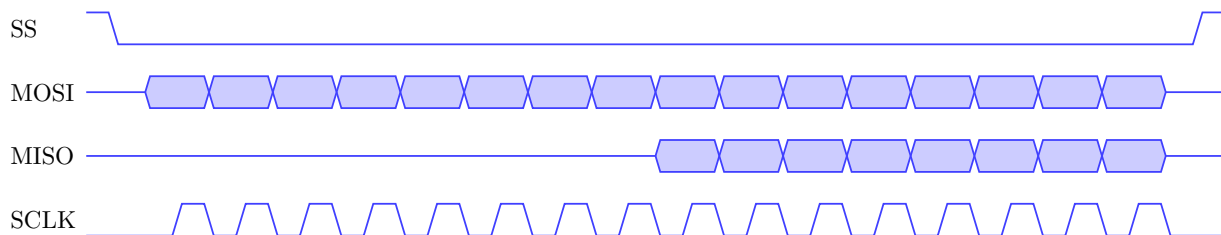
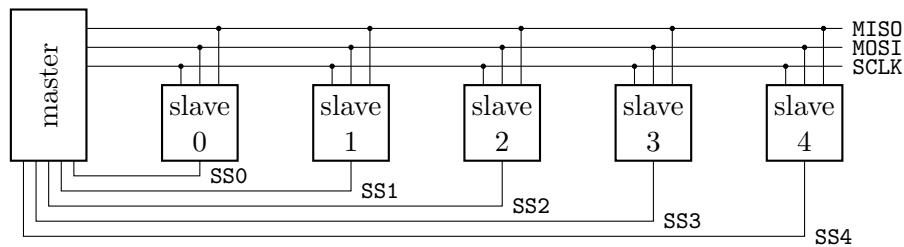

Figure 3: Example SPI frame
Figure 4: Example SPI topology. Although all slave devices utilize a shared MISO, MOSI, and SCLK, each device has its own dedicated SS line.
- We show a sample SPI frame in Figure 3 and a sample SPI topology in Figure 4.